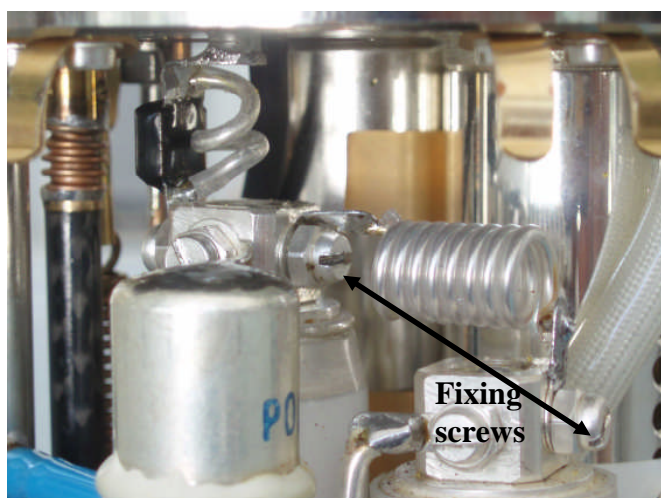

Fig.1 Position of the stop circuit coil
2. Unscrew the two M2.5-fixing screws (Fig. 1 below) and remove the installed stop circuit coil and change it by a disered one. Install the new coil in the opposite way; do not tighten the screws too much.